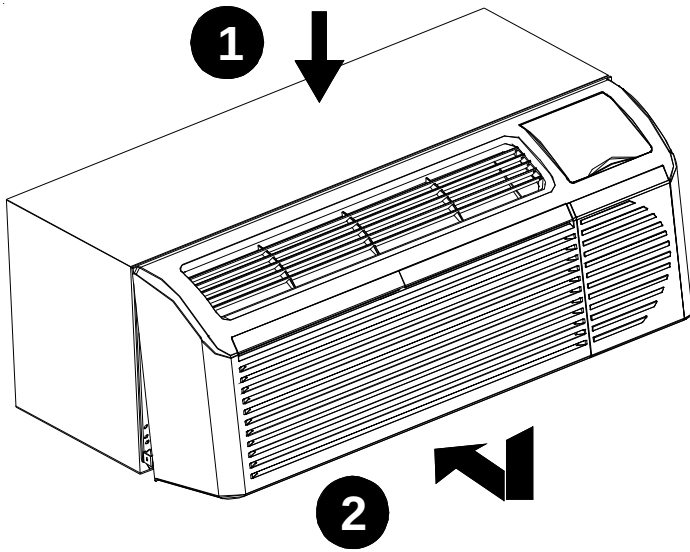

Figure 10
6. To reinstall front panel, place tabs over top rail (1). Push inward at bottom until panel snaps into place (2). See Figure 10.